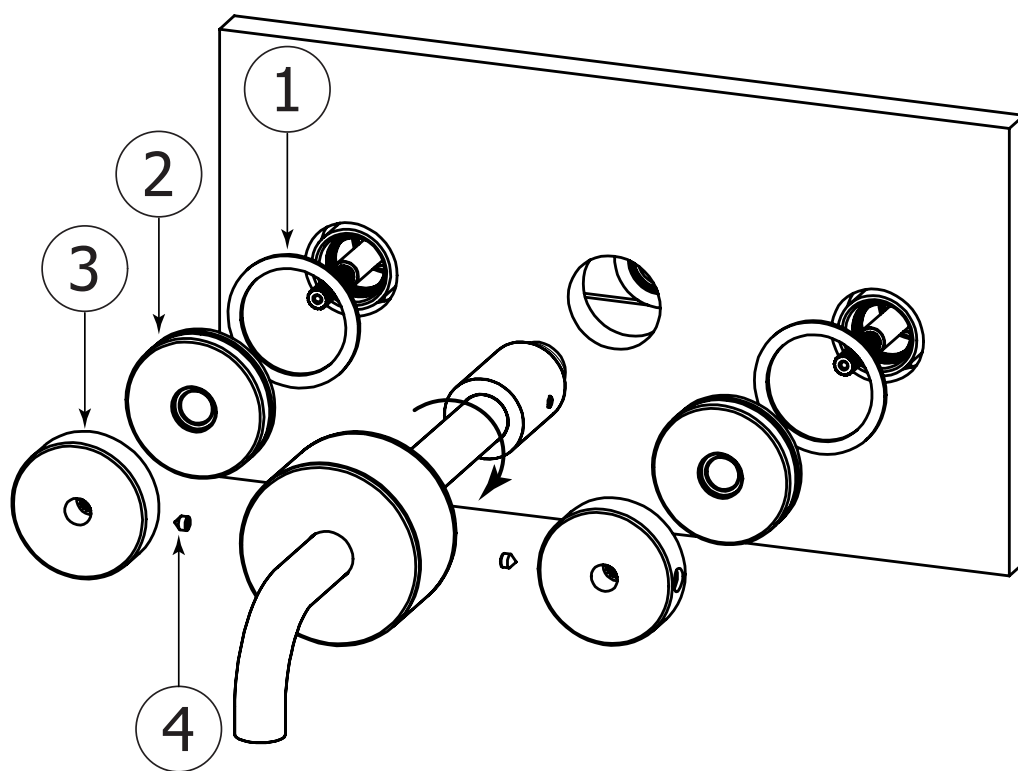

Fig. 6
Fig. 6: Position the gasket (1) into the marble support (2), inserting it into the body. Place the handle (3) on the broach, inserting the Teflon ring. Verify the correct position of this handle considering the opening/closing control. Screw the spout in place.